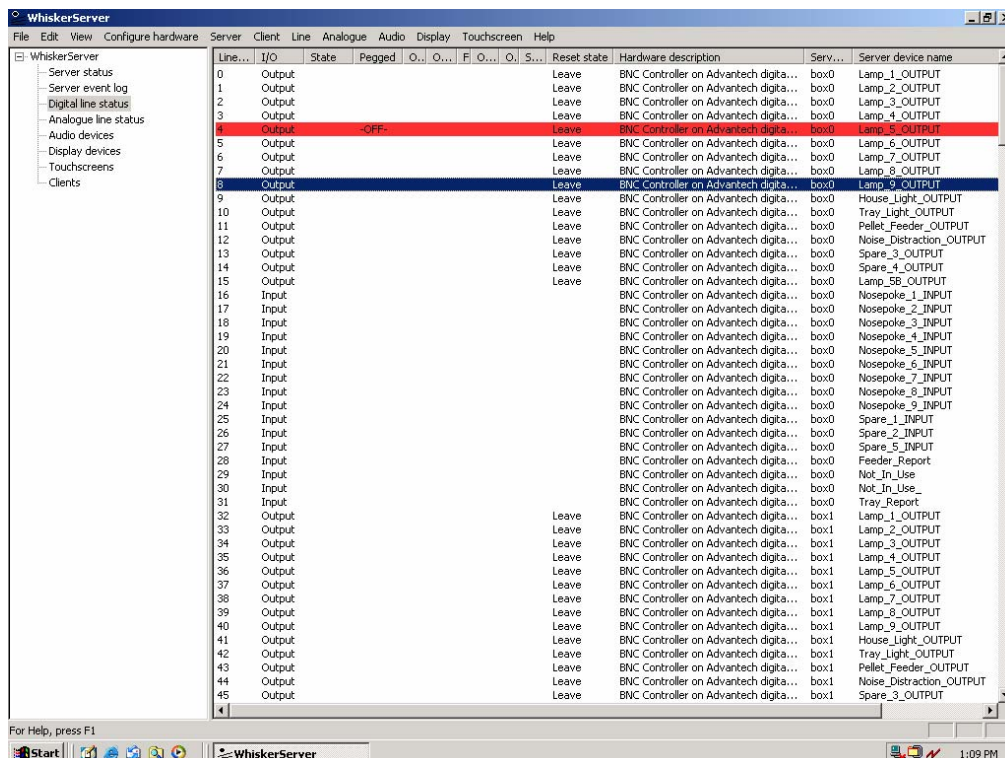

Figure 5. Whisker Digital line status screen.
16. Click *digital line status* in the left hand plane of the screen. This will now display the line information see figure 5. Lines will be configured as either input or output depending on the hardware setting on the controller.